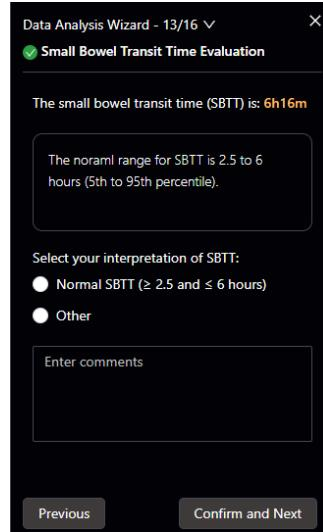

Figure 4-37 Data Analysis – Small Bowel Transit Time Evaluation
14) Small Bowel Transit Time Evaluation (Figure 4-37). Confirm the transit time of the small bowel and select based on actual conditions. After selection, click [Confirm and Next] to proceed.